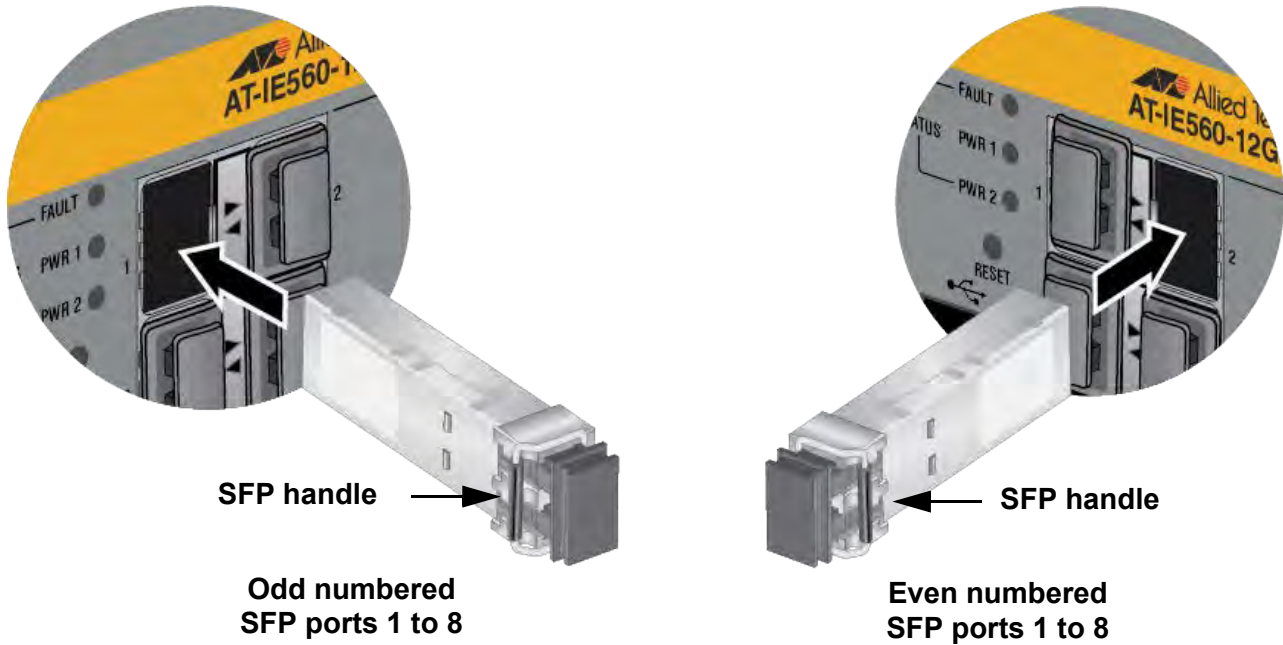

Figure 39. Installing SFP Transceivers in Ports 1 to 8
- ❑ For 100M/1G SFP transceivers in odd numbered ports 1 to 7, position the transceivers with the handles on the left. For SFP transceivers in even numbered ports, position the transceivers with the handles on the right. Refer to Figure 39 on page 92.